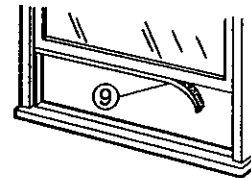

Figure 83
3. Cut the FOAM-PE ⑨ to fit the underside of the window sash. Peel off the backing and attach the seal as shown in Figure 83.